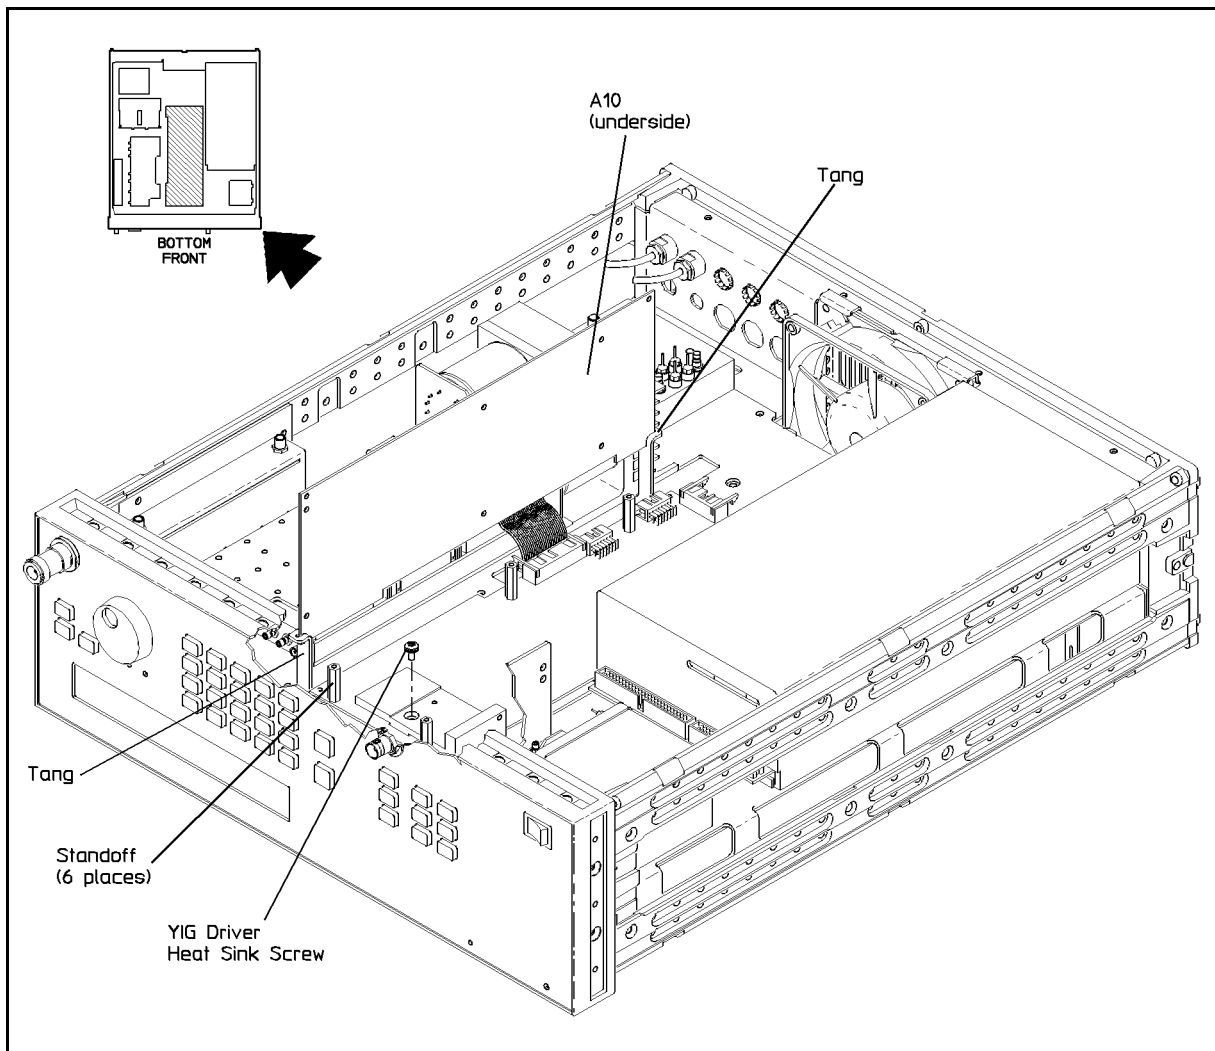

Figure 5-20. YIG Driver Board Service Position
3. Using a size 10 TORX® screwdriver, remove the six screws connecting the A10 assembly to the standoffs and the A9 assembly. See Figure 5-20.
4. Insert the ALC board assembly, A10, into the tangs on the frame as shown in Figure 5-20. This is the *service position* for troubleshooting the YIG driver board assembly, A9.
1. Using a size 10 TORX® screwdriver, remove the screw from the heat sink as shown in Figure 5-20.